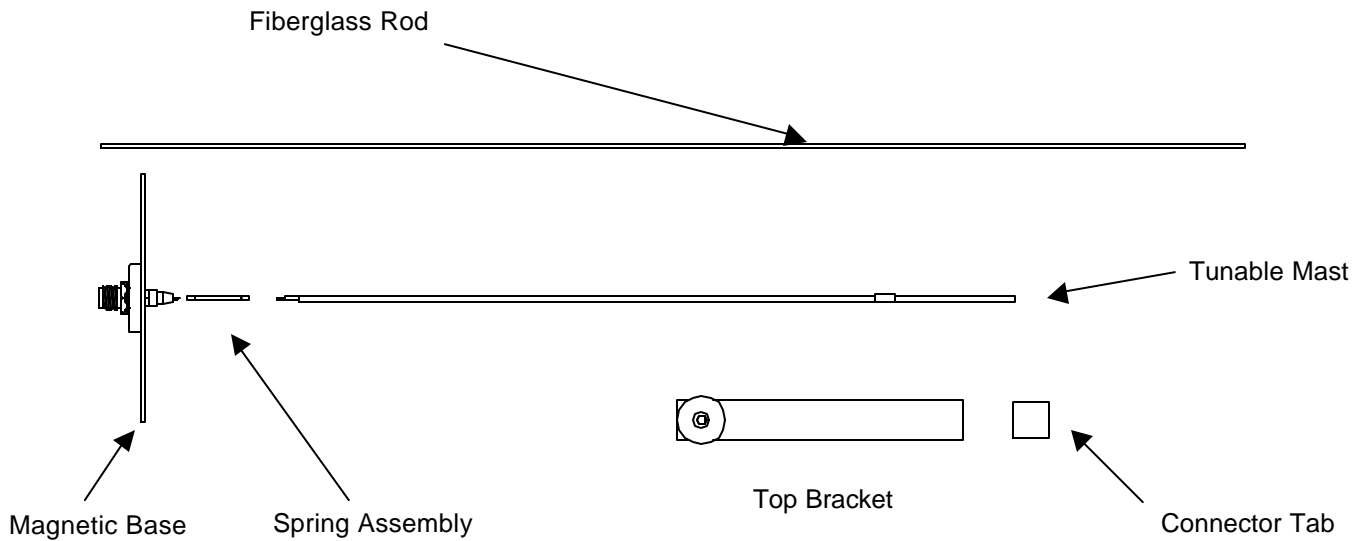

Figure 1
1. **Part List:** The system package includes magnetic base, spring assembly, tunable mast, fiberglass rod, magnetic top bracket, connector tab, matching cable network, feedline, and connectors if applicable. Use only components supplied with the antenna system (Refer to Figure 1-Parts List).